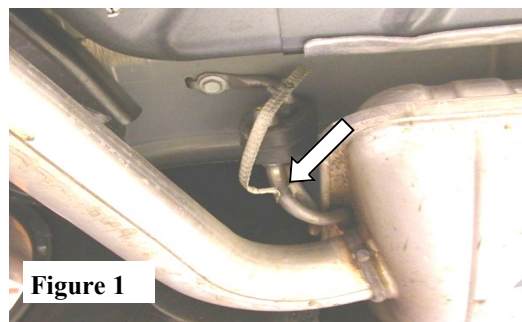

Figure 1
1. Unclip and remove the ground strap located on the passenger side rear muffler. (See Fig.1)